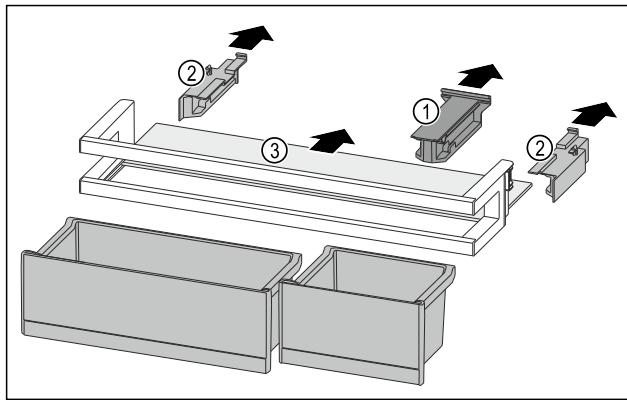

Fig. 148
- ▶ Pull off the holding part Fig. 148 (1).
- ▶ Pull off the side parts Fig. 148 (2).
- ▶ Remove the shelf Fig. 148 (3).